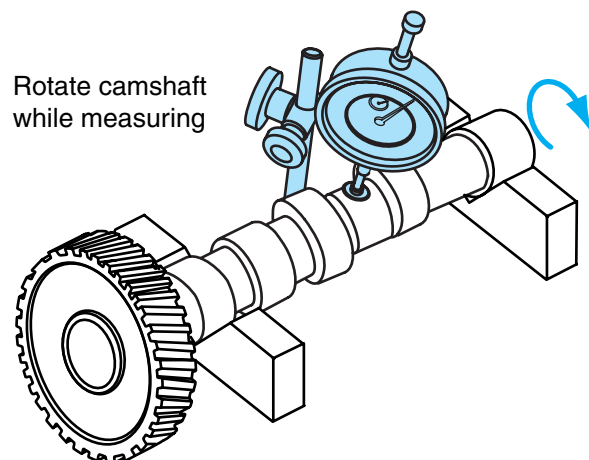

Figure 5-5 Checking a camshaft on V-blocks.
4. Place the camshaft in V-blocks (**Figure 5-5**) and check for a bent camshaft using a dial indicator. It is unusual for camshafts to bend in normal service. Bending a camshaft is usually caused by the failure of another engine component.